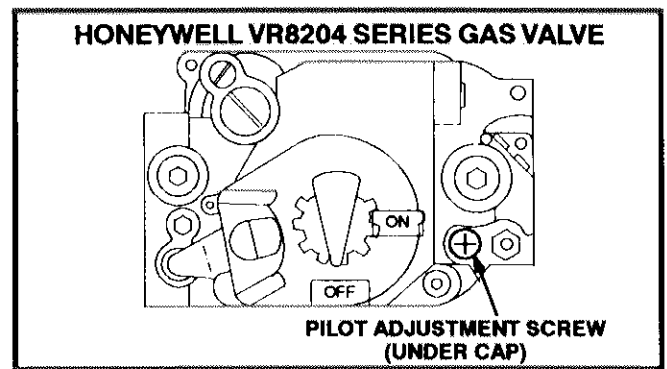

FIGURE 23
- 6- Identify the gas valve being used and locate the pilot adjustment screw. On some gas valves the actual adjustment screw is under a cap. See figures 23, 24, and 25 for pilot adjustment screw locations.